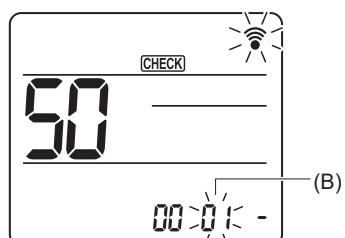

Fig. 6-16
- (3) Select a mode
Press the **[▼]** button to set Mode number (B). (Fig. 6-16)